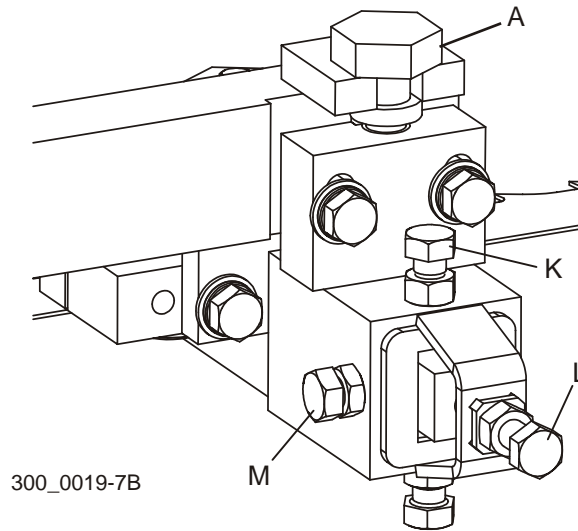

FIG. 5-39
**See Figure 5-39.** To adjust, loosen one bolt (K) and bolt (M). Slide the blade guide assembly in or out as necessary. Loosen the jam nut on bolt (L) and adjust the bolt until it